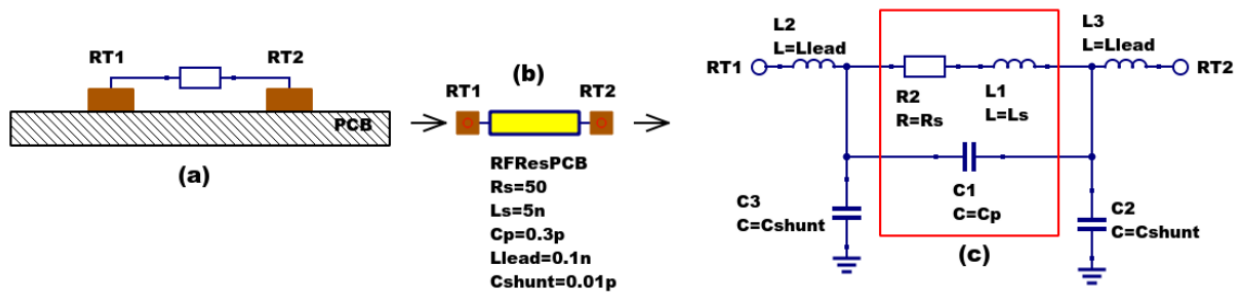

Figure 2 - PCB mounted resistor : (a) axial component mounting, (b) Qucs symbol and (c) equivalent circuit model.
The schematic symbol, I/V equation and parameters of the Qucs linear resistor model are shown in Figure 1. In contrast to this model Figure 2 illustrates the structure of a printed circuit board (PCB) mounted metal film (MF) axial RF resistor (a), its Qucs schematic symbol (b) and its equivalent circuit model (c). A thin film surface mounted (SMD) resistor can also be represented by the model shown in Figure 2 (c).
At signal frequencies where the largest dimension of an axial or SMD resistor is less than approximately 20 times the smallest signal wavelength a resistor can be modelled by a lumped passive circuit consisting of a resistor **Rs** in series with a small inductance **Ls** with the combination shunted by parasitic capacitor **Cp**. In Figure 2 **Rs** is the nominal value of resistor at its parameter extraction temperature **Tnom**, **Ls** represents the inductance associated with **Rs** where the value of **Ls** is largely determined by the trimming method employed during component manufacture to set the value of **Rs** to a specified tolerance. Similarly, capacitor **Cp** models a parasitic capacitance associated with **Rs** where the value of **Cp** is a function of the physical size of **Rs**. At RF frequencies it is important, for accurate operation, to add lead parasitic elements to the intrinsic equivalent circuit model shown within the red box draw in Figure 2. In Figure 2 **Llead** and **Cshunt** represent resistor series lead inductance and shunt capacitance to ground respectively.
A typical set of model parameters for a 51 Ω 5 % MF axial resistor are (1) **Ls = 8nH**, **Cp = 1pF**, **Llead = 1nH** and **Cshunt = 0.1pF**. Illustrated in Figure 3 is a basic S parameter test bench circuit for measuring the S parameters of an RF resistor over a frequency range 1 MHz to 1.3 GHz. This example also demonstrates how the real and imaginary parts of a resistor model impedance can be extracted from S parameter simulation data. The graphs in Figure 3 clearly demonstrate that the impedance of the typical MF RF resistor described in previous text and modelled by the equivalent circuit shown in Figure 2 is a strong function of frequency at higher frequencies in the band 1 MHz to 1.3 GHz.
Figure 8 - Qucs device model parameter extraction system applied to a nominal 47 Ω resistor represented by the subcircuit model illustrated in Figure 2 (c). Fixed model parameter values : $R_s = R_m = 47.3 \Omega$, $C_{shunt} = 0.08 \text{pF}$; Optimised values : $L_s = L = 10.43 \text{nH}$, $L_{lead} = LL = 1.47 \text{nH}$, $C_p = C = 0.69 \text{pF}$. To reduce simulation time the ASCO cost variance was set to 1e-3. The ASCO method was set to DE/best/1/exp.
Figure 10 - Qucs simulation of nominal 47 Ω resistor based on theoretical analysis.Figure 11 - Qucs device model parameter extraction system applied to a nominal 1000 Ω resistor represented by the subcircuit model illustrated in Figure 2(c).
Figure 13 - Qucs device model parameter extraction system applied to a nominal $100\ \Omega$ SMD resistor represented by the subcircuit model illustrated in Figure 2 (c).
Listed below is an example Verilog-A code model for the RF resistor model introduced in Figure 2 (c). Due to the limitations of the Verilog-A language subset provided by version 2.3.4 of the "Analogue Device Model Synthesizer" (ADMS)⁴ inductors **Ls** and **Llead** are modelled by gyrators and capacitors with values identical to **Ls** or **Llead**.